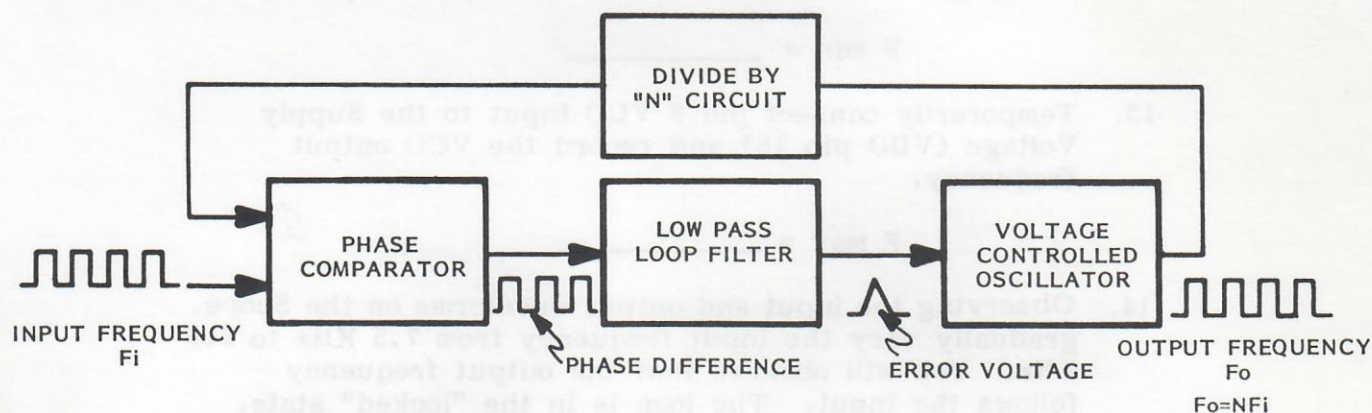
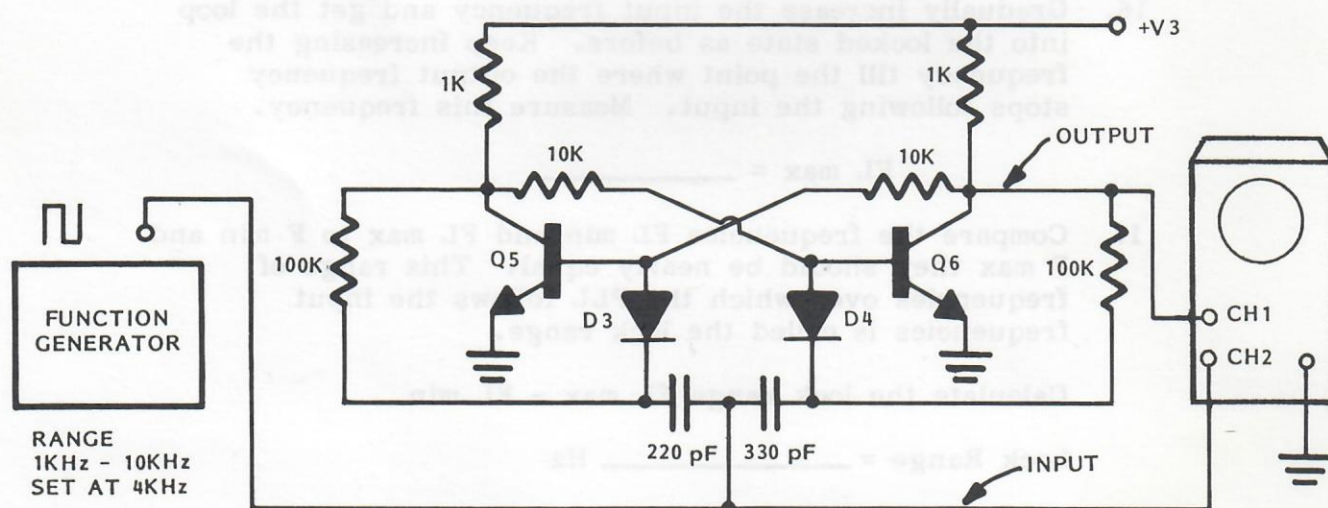

FIGURE 7 - BASIC PHASE LOCKED LOOP FREQUENCY MULTIPLIER.
FIGURE 8 - FLIP-FLOP
19. Figure 7 indicates the basic PLL scheme used to multiply an input frequency. Figure 8 indicates a basic Flip-Flop which divides frequency by 2 and will be inserted into the feedback path of the PLL to achieve a frequency multiplication by 2.
20. Wire the Flip-Flop of Figure 8. This divide by two circuit will be later placed in the feedback path of the PLL.